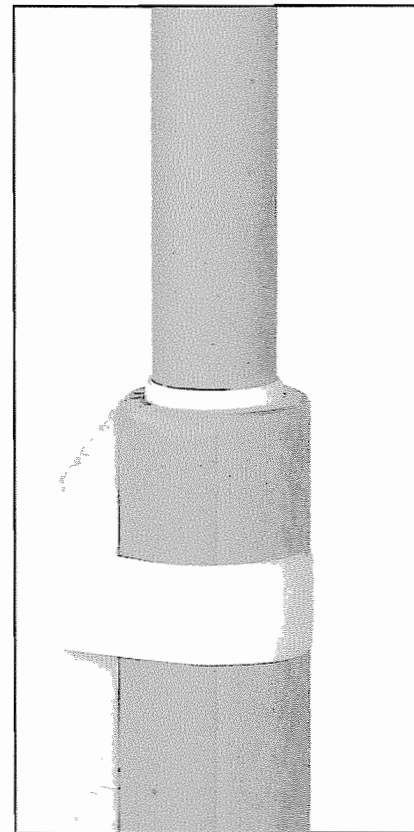

**Figure 19-17.** The point where the E33 exits the G104 is marked.
2. Insert the nozzle-end of the E33 into the front of the G104 so that it rests on the G104's forward bulkhead, and mark the point where it exits the front of the G104 (**Figure 19-17**). Then remove the E33, and prepare it for staging per the instructions on **pages 303 - 306**.